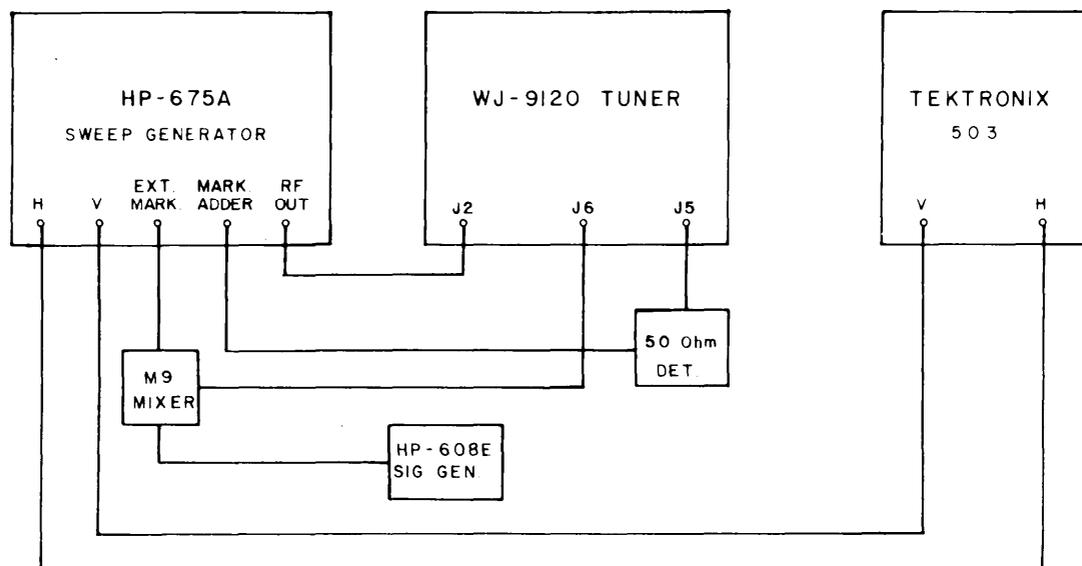

Figure 4-4. Equipment Connections, Gain Measurement
- (1) Connect the test equipment as illustrated in Figure 4-4.